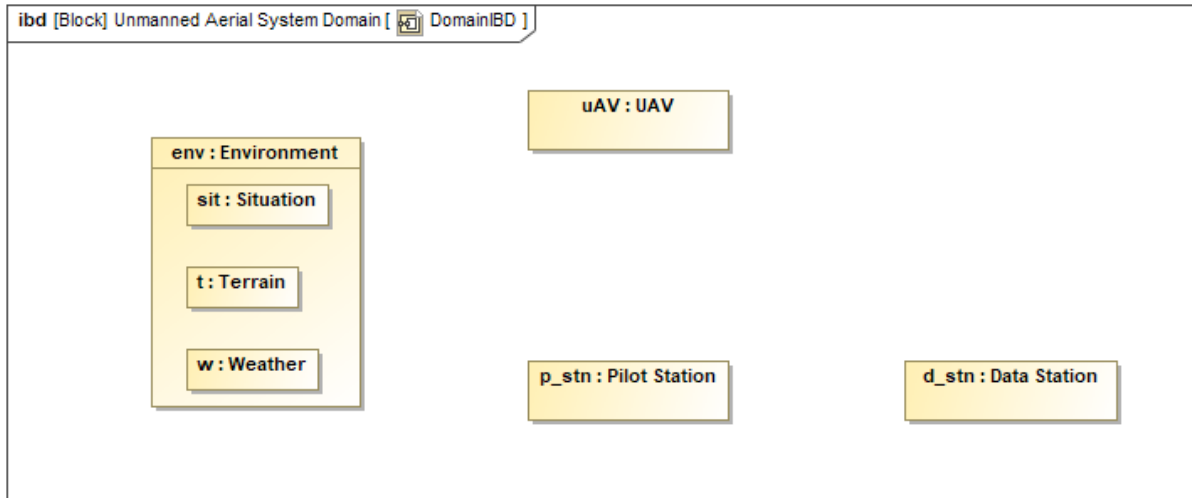

Figure 2 Domain IBD diagram, first stage
- Rearrange the part properties in the diagram so that it appears similar to Figure 2.